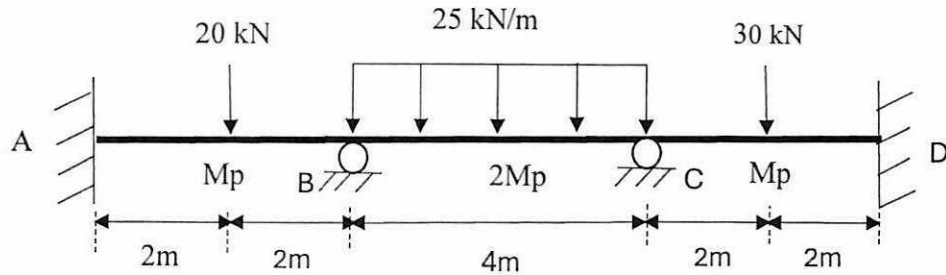

Figure Q4.2 Statically Indeterminate Beam
- (e) A statically indeterminate beam with fix supports at A and D, and roller supports at points B and C, carries load as shown in **Figure Q4.2**. Sketch all the possible mechanisms for the beam system and show all the hinges developed. (3 marks)